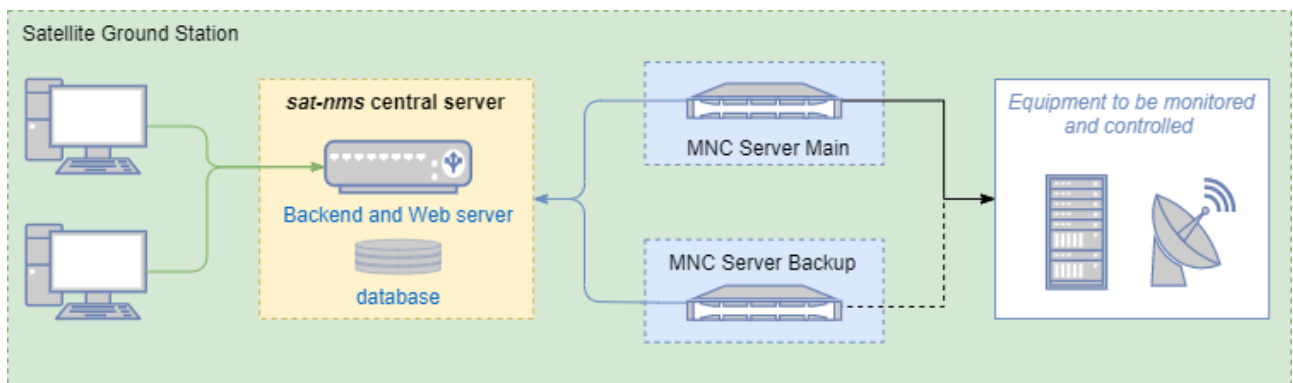

Figure 2: redundant standalone MNC system for satellite ground station
- Ground station with a pair of redundant MNC systems and one central server for databases, API and webserver (Figure 2)